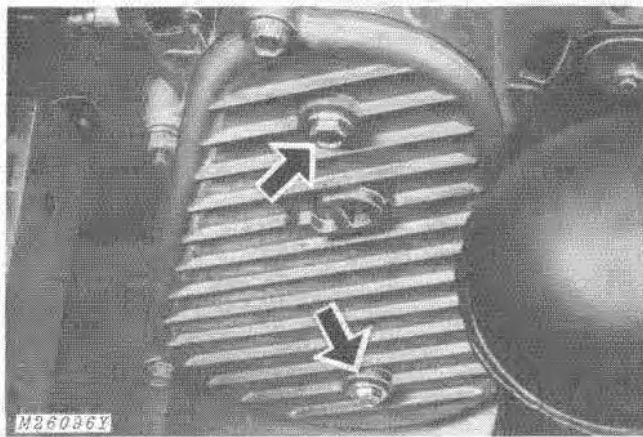

Fig. 6-Chain Case Fill and Drain Plugs
6. Remove upper and lower plugs, Fig. 6. Add API-GL5 gear oil (SAE 90) in the upper hole until it starts to run out lower hole. Replace plugs.